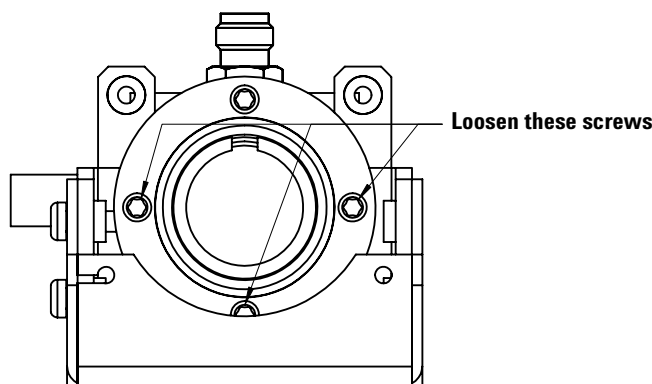

Figure 42 Lens holder and screws.
- 8 Four screws connect the lens holder to the right face of the emissions block assembly (Figure 42). Loosen, but do not remove, the screws on the bottom and the two sides.